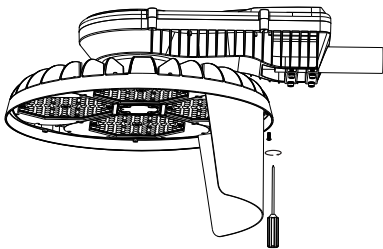

Figure 10
- Fix the light barrier to the luminaire with a screwdriver as required, Figure 10